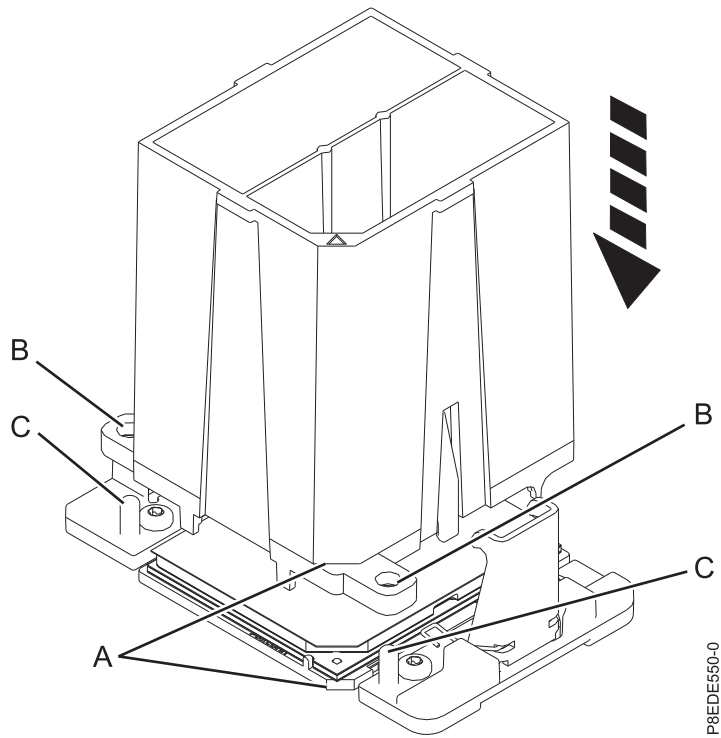

Figure 29. Lowering the removal tool onto the system processor module
- a. Using the supplied removal tool, align the beveled corner **(A)** of the tool over the beveled corner of the system processor module as shown in Figure 29 on page 30.